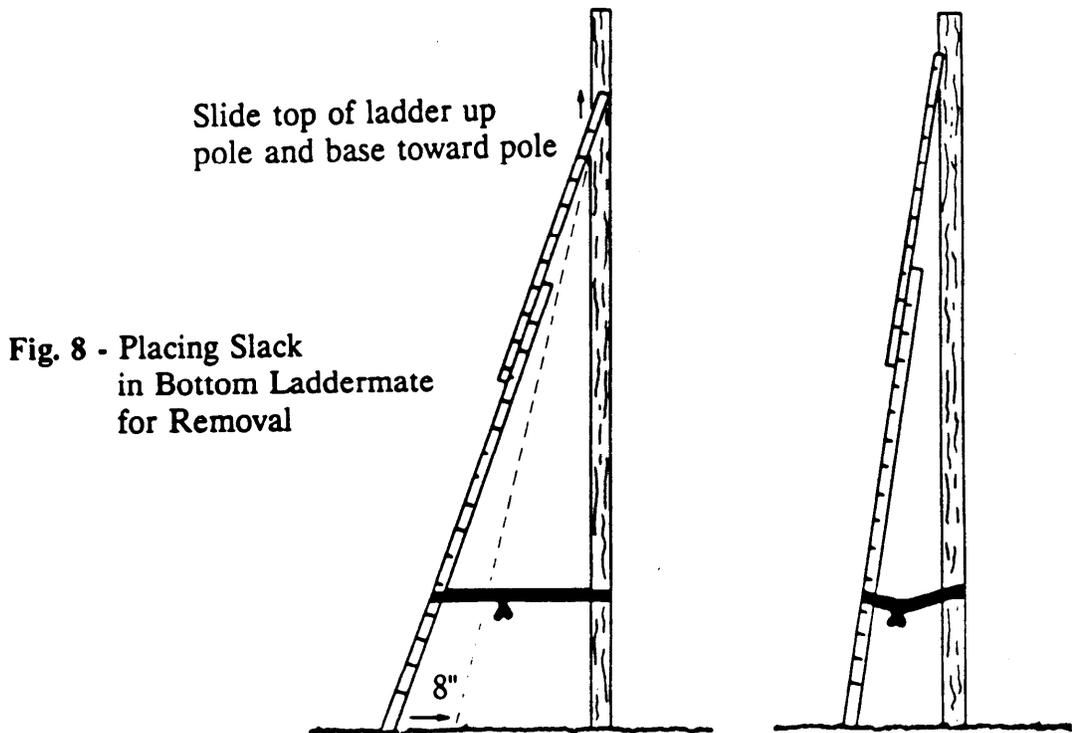

Fig. 8 - Placing Slack in Bottom Laddermate for Removal
- o After this is accomplished, descend the ladder. From a standing position at the base of the ladder, lift the side rails slightly, and move the ladder base approximately 8 inches towards the pole (Fig. 8). This will place slack in the BOTTOM-LADDERMATE which will allow you to release the snaps and remove the strap.